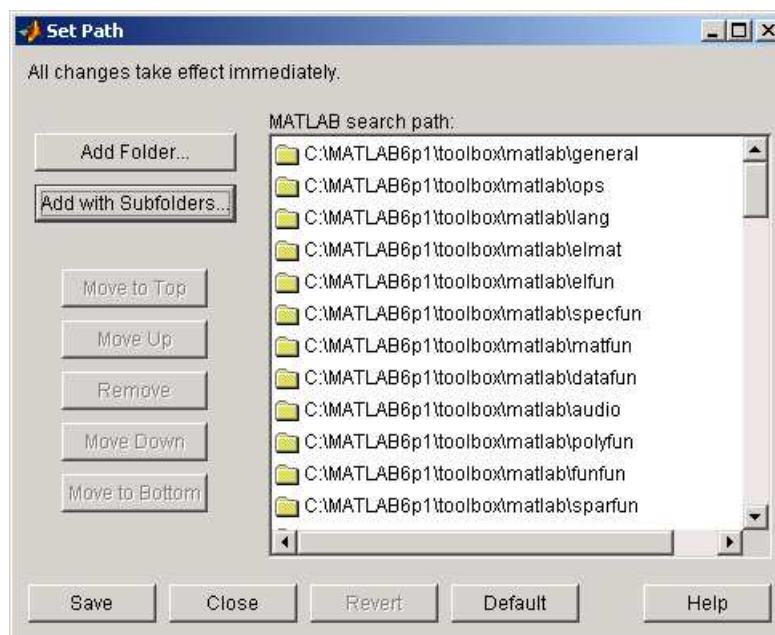

Figure 1: Set Path GUI in MATLAB
- a. Open Set Path utility from the MATLAB® File menu (see Figure 1).
1. Open Set Path utility from the MATLAB[®] File menu (see Figure 1).